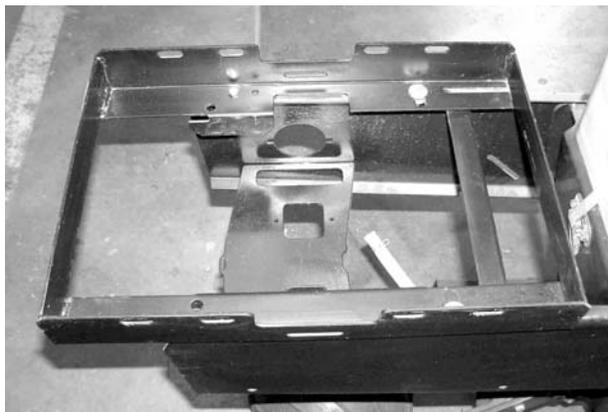

Figure 7A
2. Orient SmartBox® cradle as shown in Figure 7A.